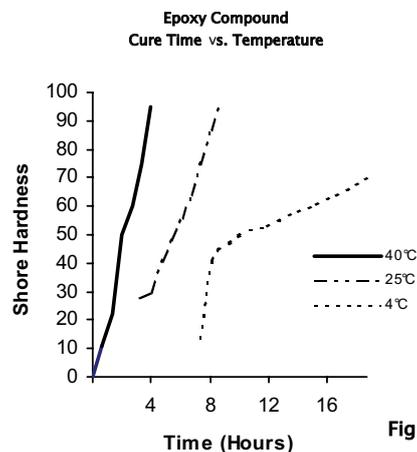

Fig. 7
- Pass the conductors through the body (5), which may have been previously fitted into the equipment. Ensure that compound does not cover end of pot (4).
- Locate and hand tighten backnut (1) to the body.
- Allow the compound to cure. (See Fig. 7 on page E-329 for curing times.) To hard mass: 3 to 4 hours @ 20° C to 30° C. For optimum properties: 12 to 24 hours @ 20° C to 30° C.